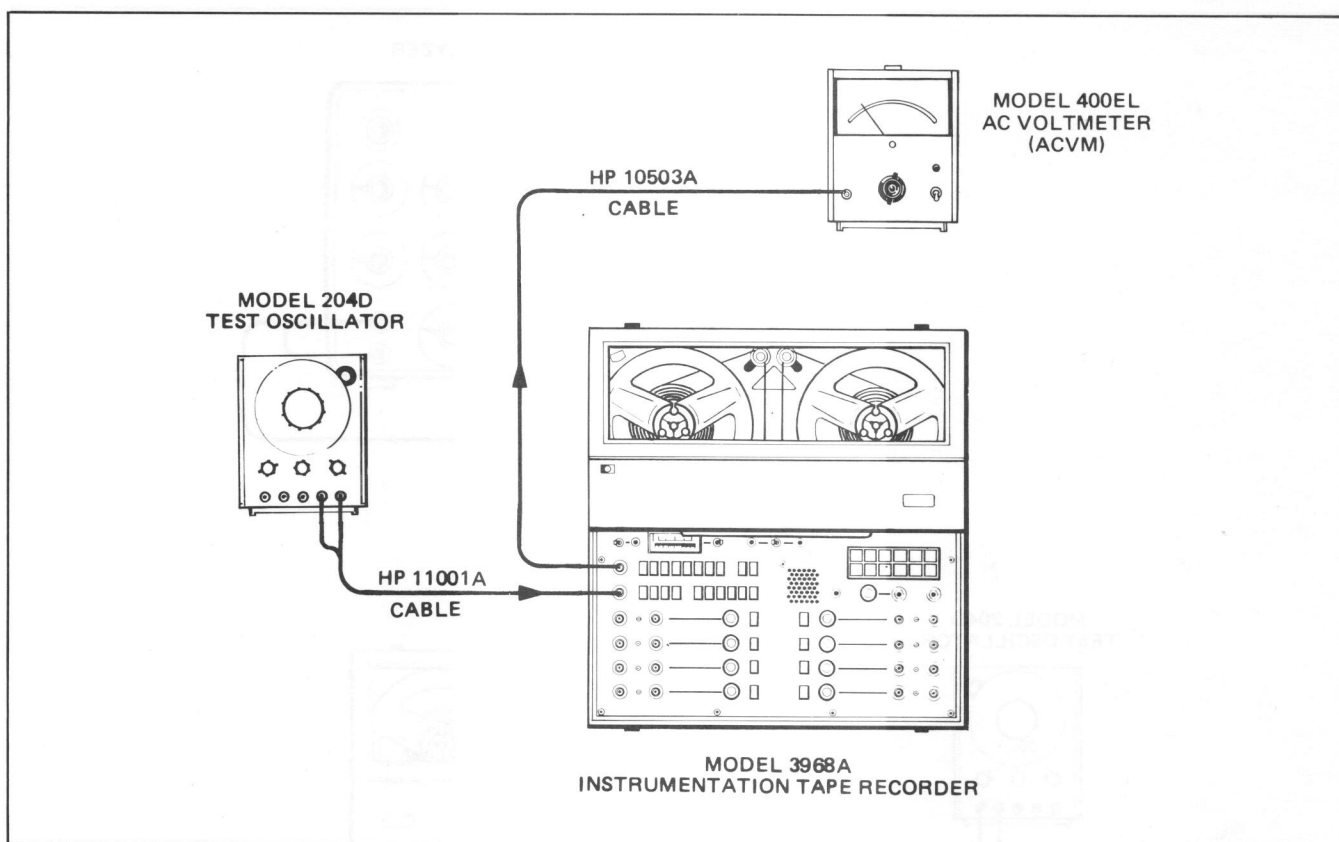

Figure 5-7. FM Frequency Response Test Setup
- g. Connect the test oscillator to EXTERNAL CAL INPUT jack on the front panel. Set its frequency to 500 Hz and its output level to a convenient value, constant for the tests (see Figure 5-7).